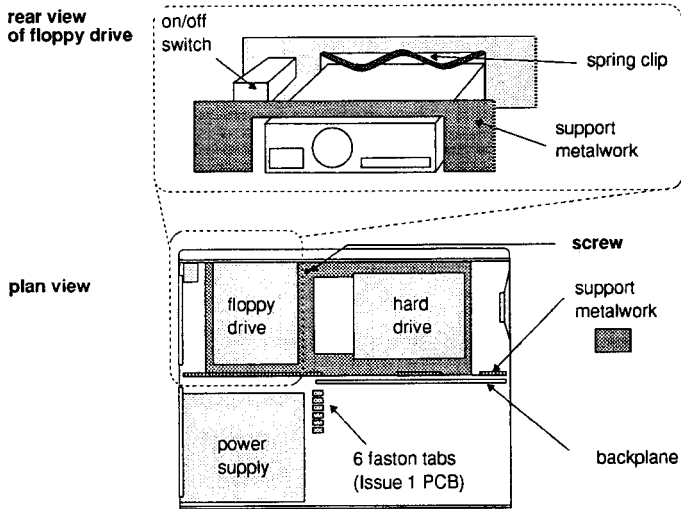

Figure 4: *Releasing the drive assembly*
- 8 Remove the W-shaped EMC spring clip (if fitted), which earths the **floppy drive** to the main case by pressing down and hooking it out with your fingernail (see Figure 4: *Releasing the drive assembly*).
- 9 Undo and remove the screw holding the drive support metalwork to the front of the metal case (see Figure 4: *Releasing the drive assembly*).
- 10 (Issue 1 PCBs only.) Remove the two power supply faston tabs which are positioned **nearest** to the backplane (see Figure 4: *Releasing the drive assembly*). Use the pliers for this, and wiggle the tabs to ease them off. Remember which tab comes from which connector (mark the end one with a felt-tip pen before you remove it).
The whole assembly (including drives and backplane where fitted) should lift and the end tags disengage from the sides. You'll need to pull quite firmly, particularly if a backplane is fitted, as this has to disengage from its connector. If you feel resistance, check to make sure that you have undone the screw (shown in Figure 4: Releasing the drive assembly).